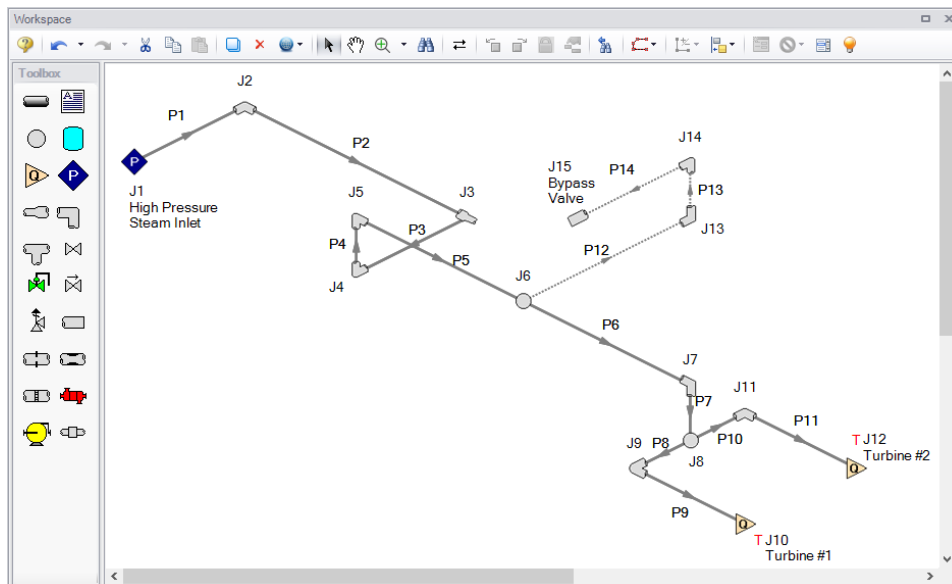

Figure 2: Model layout without Grid
6. The grid can be shown or turned off in the Arrange menu, as shown in Figure 2